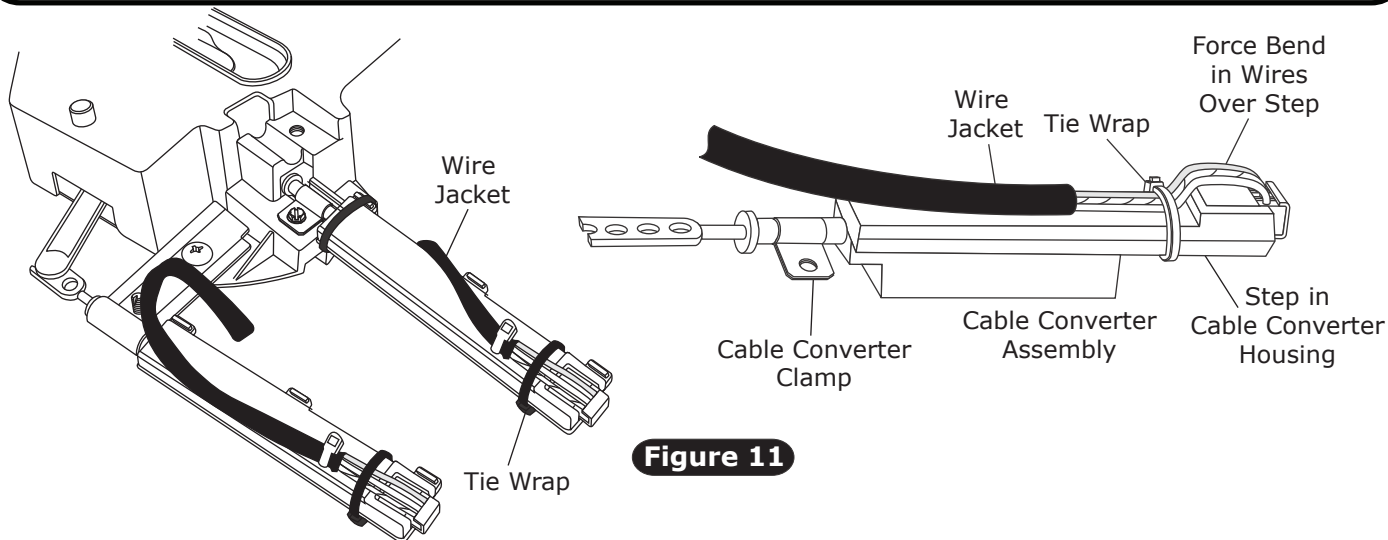

Figure 11
1. Once the wires are correctly plugged into the cable converter assembly, secure the wires to the cable converter assembly using the supplied tie wraps. The tie wrap must be located between the end of the wire jacket and the step in the cable converter housing, forcing a bend in each wire as it passes over the step in the cable converter housing. The head of the tie wrap must fall on the edge of the housing to remain tight. Ensure that the tie wraps are tight enough that the wires cannot move (See Figure 11, below).